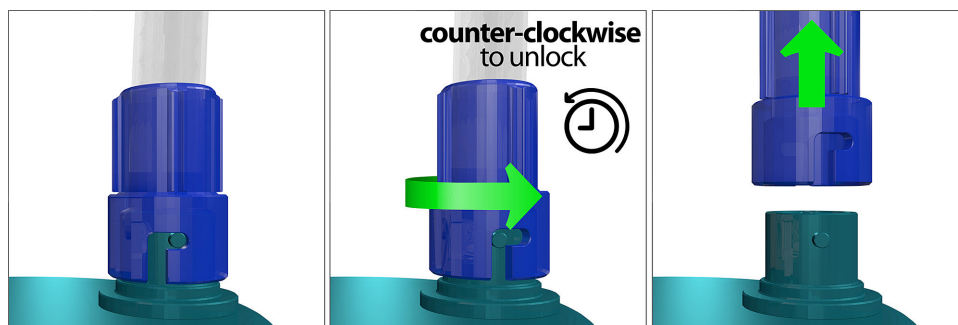

Figure 18
3. Grasp the blue Twist N' Connect™ end of the tubing attached to the canister. Gently twist counterclockwise and pull up to remove tubing from canister (**Figure 18**).
4. Remove the tubing by holding the blue Twist N' Connect™ end of the tubing, gently twist counterclockwise and remove the tubing from the canister (**Figure 18**).